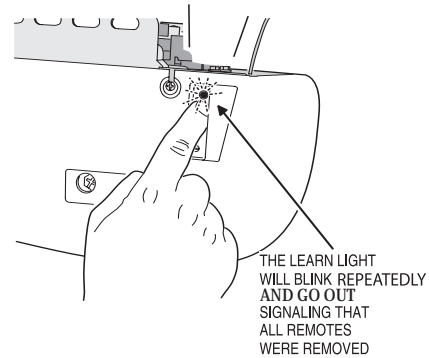

Figure 4 Erasing the remotes
- D Erasing all remotes (Figure 4).